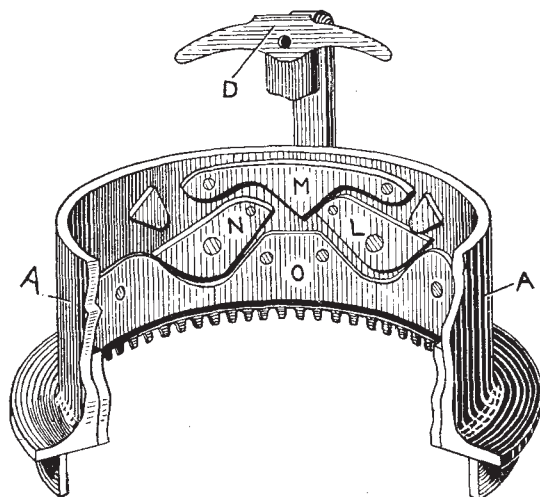

Fig. 116. Cam Cylinder Showing Cams.
**The Cams M and O** (Fig. 116) are stationary, and act simply as guides to guide the needles to the stitch cams N and L. The stitch cams perform the entire operation of knitting backwards and forwards; they swing loosely on pins provided for that purpose at their upper ends and swing back, as shown by L, when the needles pass under them to form the stitch. They are in position, as shown by N, when the need-